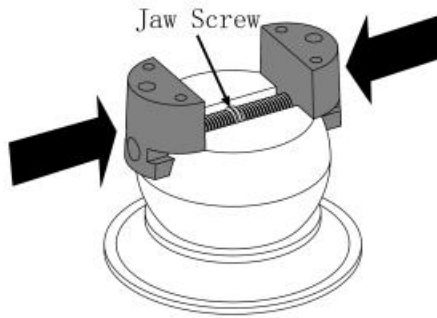

FIG. 1
1. You must start the jaw threads at the same time when replacing them( FIG. 1). Hold each jaw in position and turn the jaw screw to close them. Either a large rubber band or a second person is useful to help turn the jaw screw while you hold the jaws against the thread. If the jaws don't meet at the same time in the center, remove them and try starting the threads at the same time again.